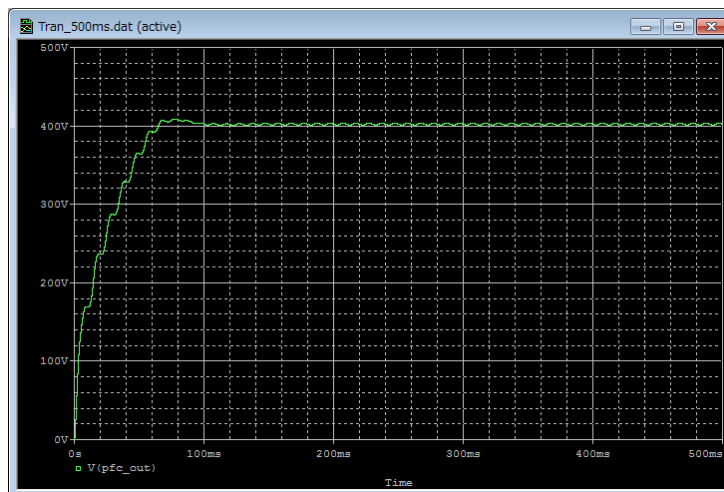

Figure 5.10 Simulation waveform view (Example: PFC output voltage waveform)
3. Then, its waveform appears in the graph window of PSpice[®] A/D as shown in Figure 5.10.